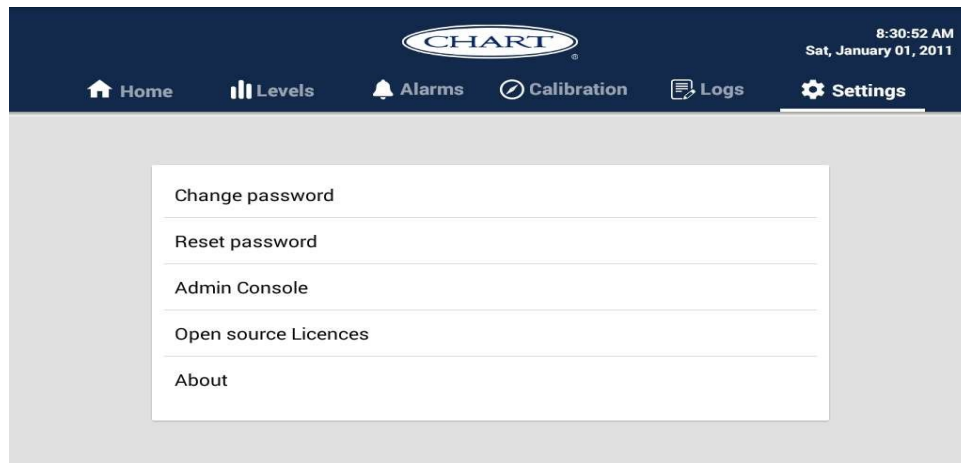

Figure 25: Password screen
1. Touch the “Reset Password” option (see Figure 25).